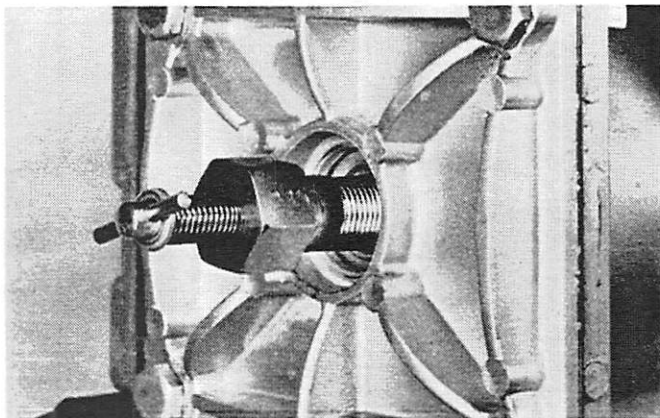

Figure 3. Timing Gauge in Spark Plug Hole
3. Thread Timing Gauge (C-91-26916A1) into No. 3 (or No. 4) spark plug hole. (Figure 3)
1. Thread .015" Timing Gauge (91-31161A1) into No. 3 spark plug hole of Merc 850-800, No. 4 spark plug hole for Merc 700. (Figure 3)